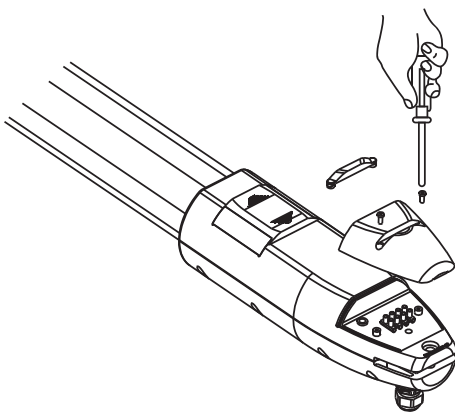

FIGURE 29
- A. Turn the round plate on the release part to "OPEN" position, See Figure 29